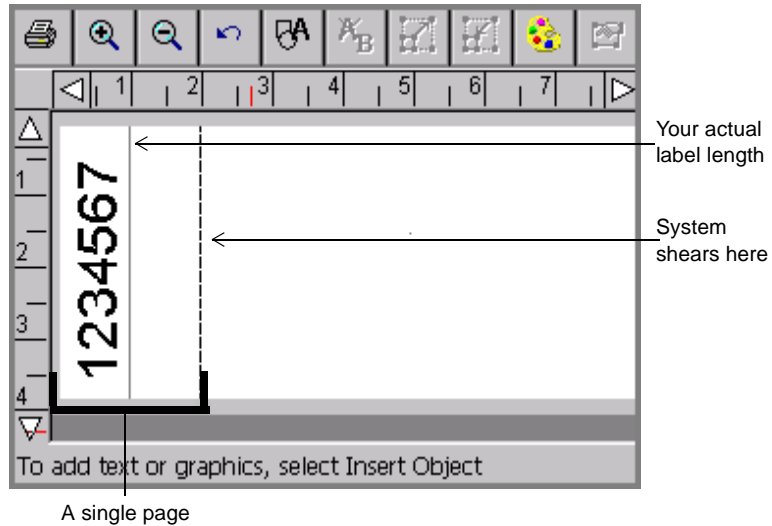
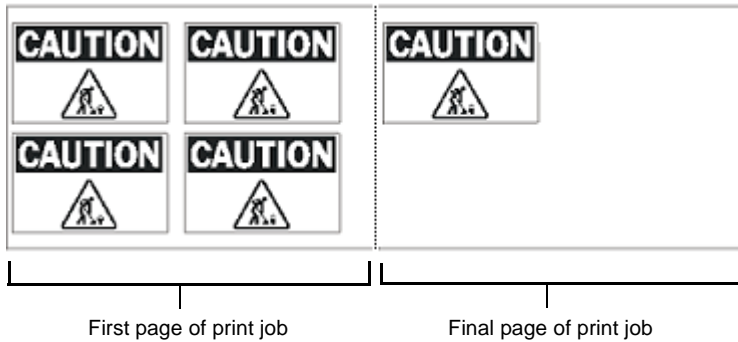

Figure 11-1. Sample short label.
Figure 11-2. Sample labels with Supply saver option enabled.
**A page is the area between the leading edge of the tape (where the label starts), and the shear cut.** A page can contain one or more than one label, and the minimum size for a page is two inches or 51 mm. See Figure 11-1 and Figure 11-2 for illustrations of pages.
**Note:** The label length and shear lines in Figure 11-1 are shown to illustrate the concepts discussed here. Those lines will not display on your screen.